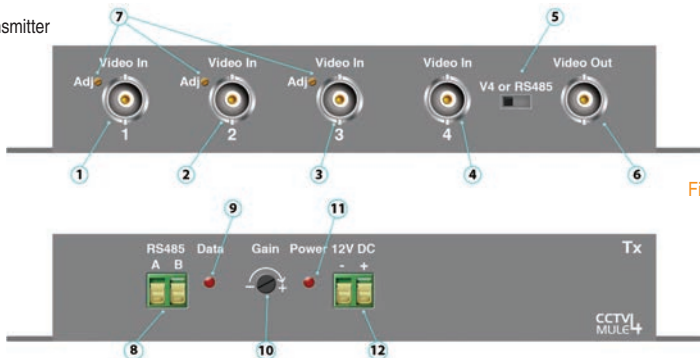

Figure 1
1. Connect your 4 video input signals into the 'Video In' ports 1 to 4 (figure 1, 1-4).
3. The RG59 co-ax cable connects to the 'Video Out' port (figure 1, 6), the maximum length for this cable is 200 metres.
4. You can adjust the brightness of the first 3 video inputs (figure 1, 7) if required by turning the grub screw with a screwdriver clockwise and anticlockwise, however 'Video In' 4 is fixed.
1. Connect the 3 'Video Input' signals into the 'Video In' ports 1 to 3 (figure 1, 1-3).
3. The RG59 co-ax cable connects to the 'Video Out' (figure 1, 6), the maximum length for this cable is 200 metres.
1. Connect the 3 video input signals in to 'Video In' ports 1 to 3 of the transmitter (figure 1, 1-3).
2. Connect an LCD monitor to 'Video In' port 4 (figure 1, 4).